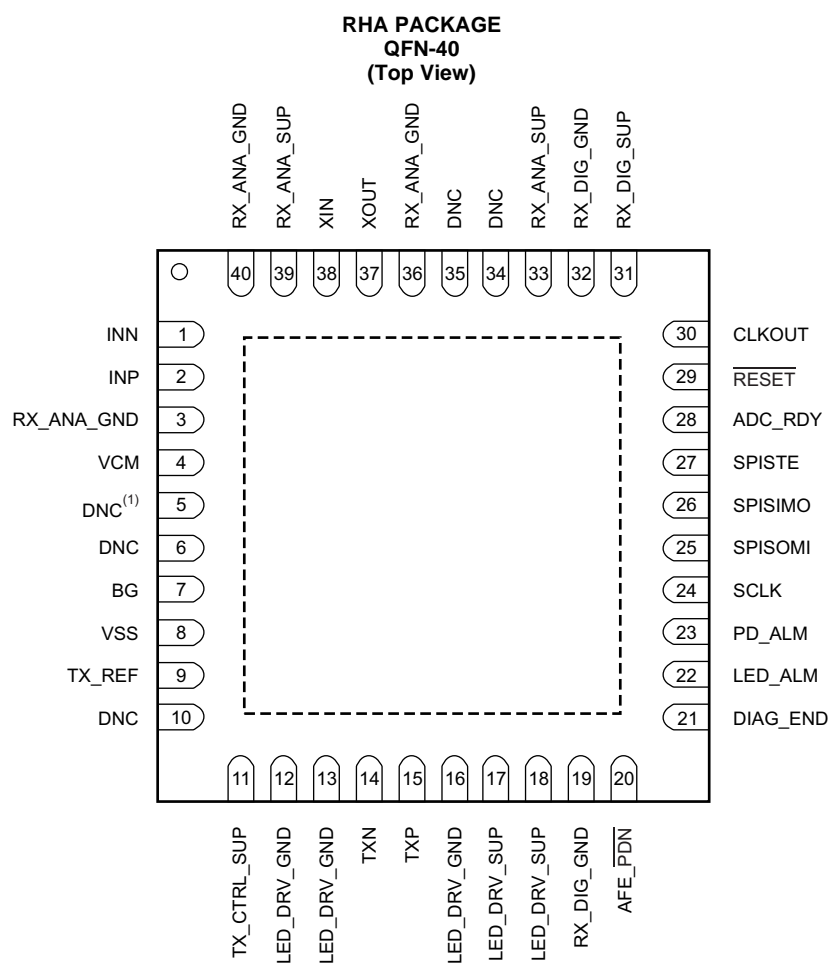

**Figure 2. Serial Interface Timing Diagram, Write Operation**
**Table 1. Timing Requirements for Figure 1 and Figure 2**